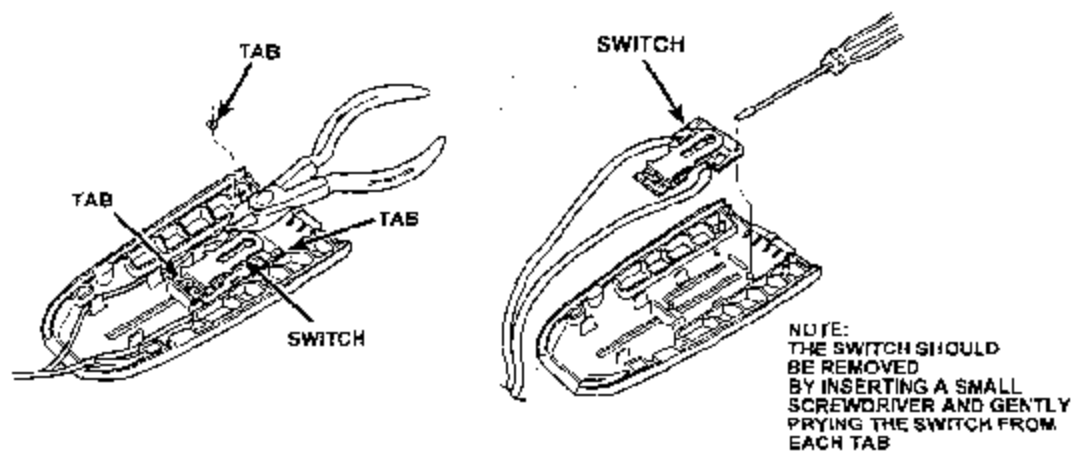

FIGURE 3
7. **Driver's Side Buckle Only (Laser/Talon); Both Sides (Stealth):** Remove the heads of the three plastic tabs which secure the seat belt switch to the lower cover using small side cutters or a razor blade (Figure 3).
8. **Driver's Side Buckle Only (Laser/Talon); Both Sides (Stealth):** Carefully remove the switch from the mounting tabs by using a small screwdriver and gently prying the switch from each tab (Figure 3). Discard the lower seat belt buckle cover